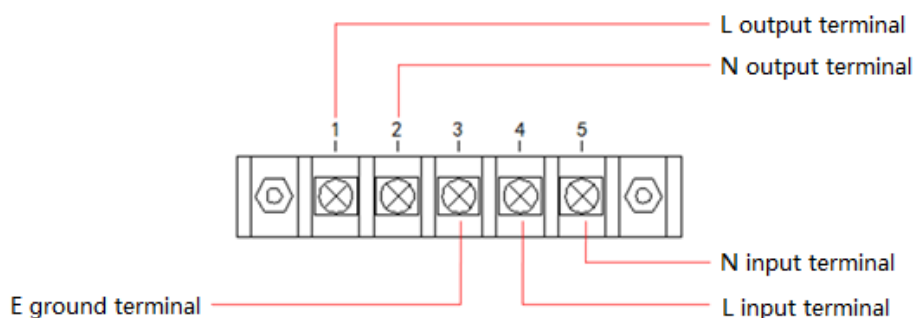

Figure 1-1
- 4) The power input line L, zero-line N and ground-line E should be the same as the power plug of this instrument. Remove the protection cover on the rear panel before use of the instrument, the detailed wire connection diagram is shown in figure 1-1: